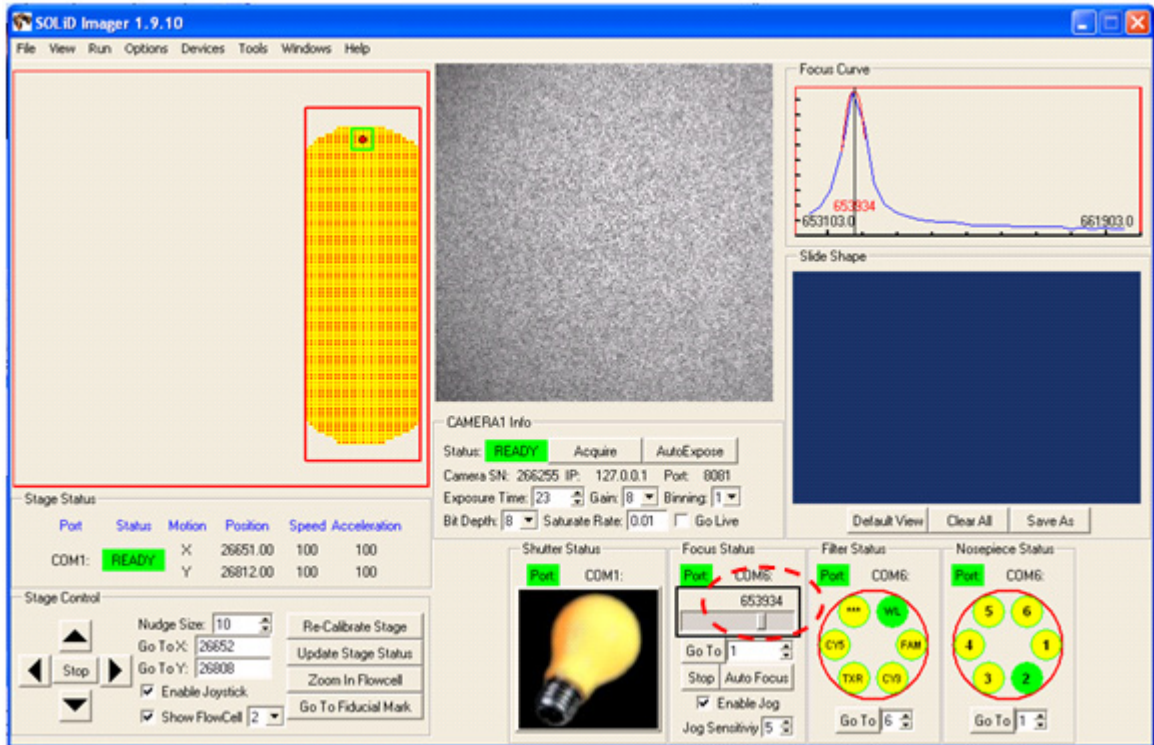

Figure 84 Record the nominal Z distance.
1. When the image is in focus, record the value of the Z distance in the Focus Status pane. This is the *nominal Z distance* for this flowcell. Be sure to record the correct Z distance value, not the value in the GoTo window (see Figure 84).